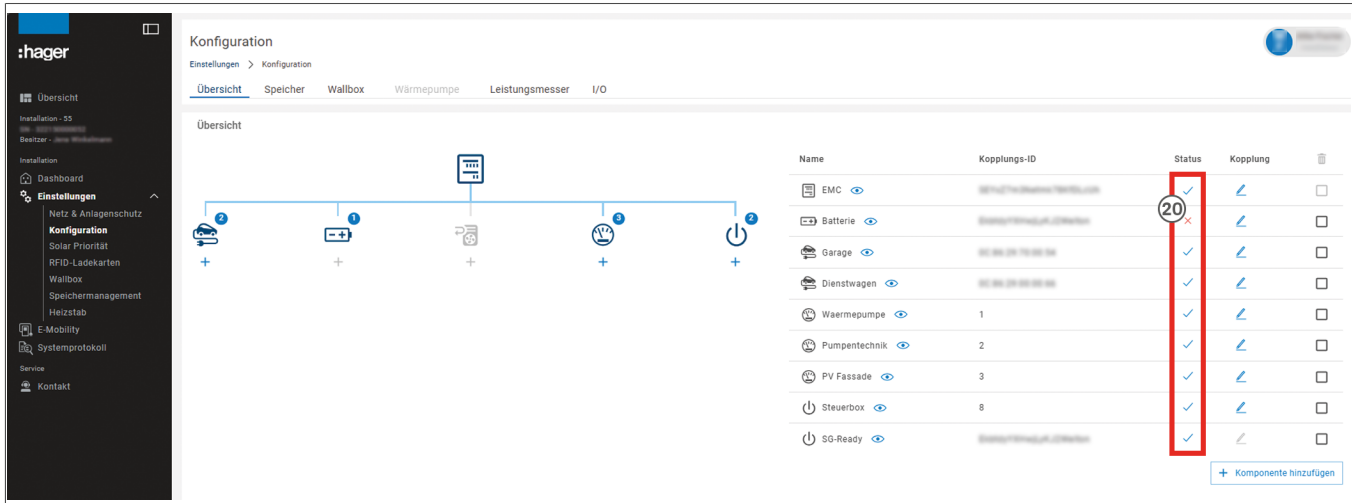
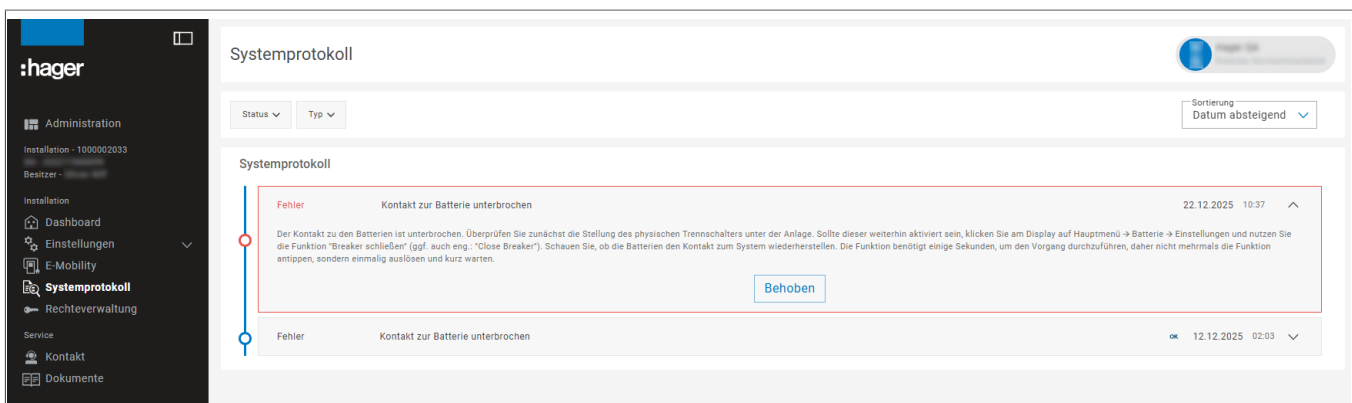

Fig. 44: System overview with storage system/inverter (example of an extensive system)
Fig. 45: Example of a system log with faults in the system
If a fault is identified in the energy management system, the LED strip on the inverter indicates the corresponding fault type and the fault is shown in the portal/app overview with ✗. Detailed information on the fault that has occurred can be viewed under **System log** in the left-hand menu bar (Fig. 45).
Once all new system components have started up, check again in the portal/app whether the status (Fig. 44) (20) of all system components is marked as OK with a *blue check symbol*. If necessary, obtain further information under **System log** (Fig. 45) or check the signals of the LED strip for status indication on the inverter.